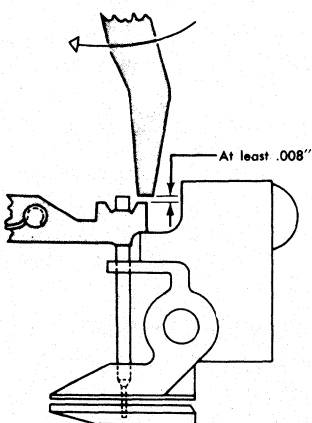

Figure 126. Contact Lever Clearance
2. When interposer bail is latched on control arm, the pin contact lever bails should hold all contact levers beyond latch surface of interposer (Figure 126). This clearance is necessary to allow free movement of reader pins and interposers when sensing tape and when being restored.